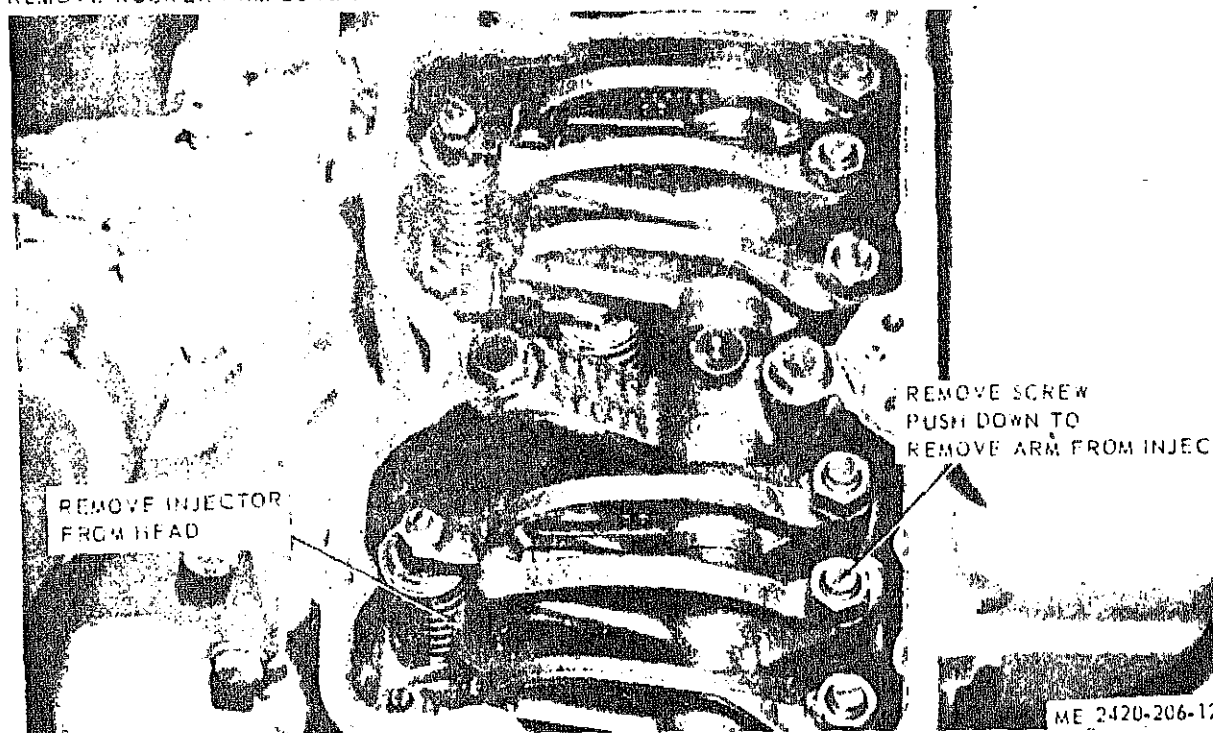

Figure 4-32. Fuel injector, removal and installation.
(1) Install fuel injector in reverse order of removal, fig. 4-32.
(2) Refer to paragraph 4-40 and adjust
(3) Install new rocker arm cover gasket